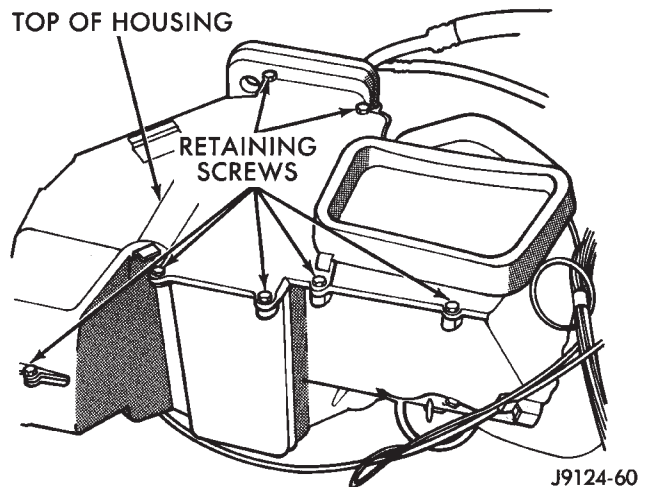

Fig. 28 Top of Housing
(1) Remove the evaporator/blower housing.
(2) Remove the top housing retaining screws. Remove the top of the evaporator housing (Fig. 28).